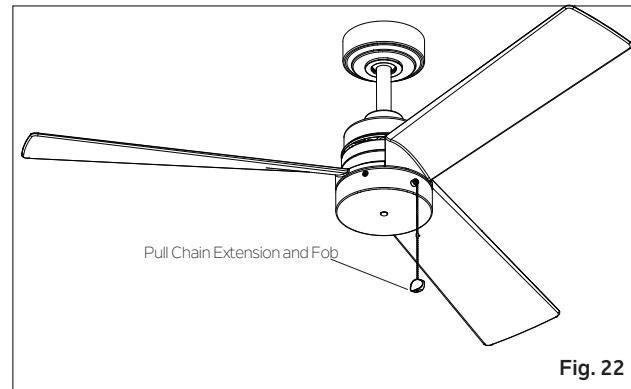

Fig. 22
Step4. Install the pull chain extension and fob. (**Fig. 22**)